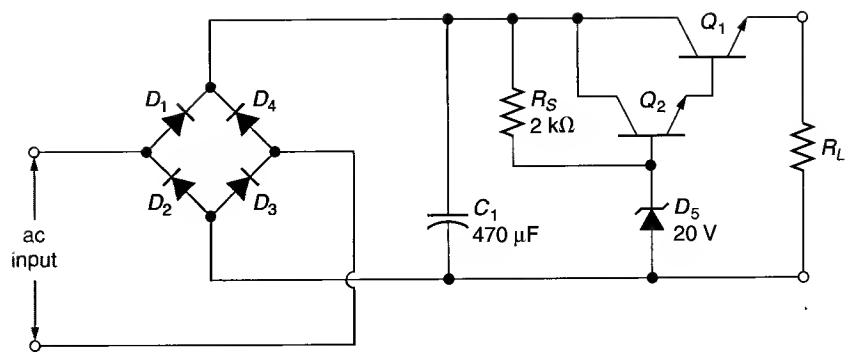

FIGURE 21.26
10. Determine the approximate value of V_L for the circuit shown in Figure 21.26.